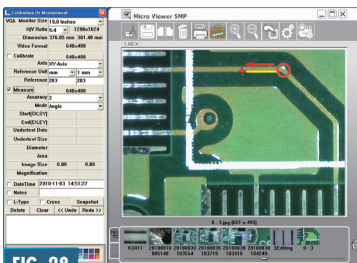

FIG. 28
6. Drag to the left side and release the right button of the mouse. (Fig. 28)